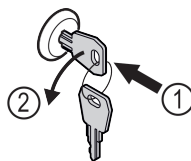

Fig. 161
- ▶ Insert the key. Fig. 161 (1)
- ▶ Turn the key anticlockwise by 90°. Fig. 161 (2)